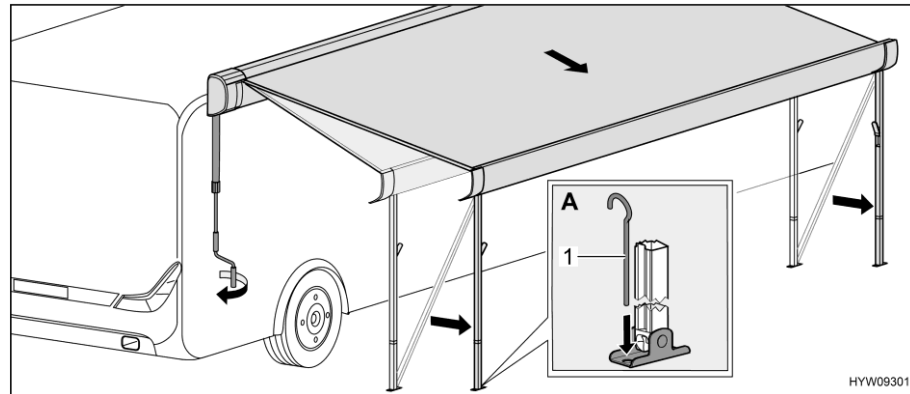

Fig. 30 Bringing awning into end position
- Fix the support legs to the floor with tent pegs (Fig. 30,1) (Fig. 30,A).